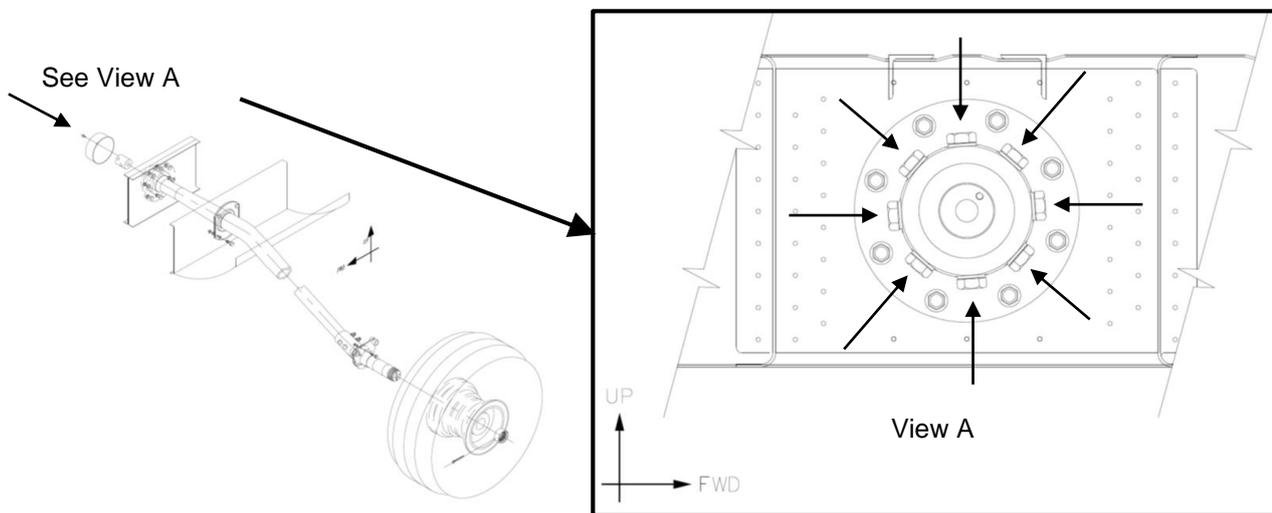

Figure 2 – Main Gear Leg Inboard Attachment Bolts
- ii. Remove the inspection panel and bolt retaining cap to gain access to the fasteners shown in Figure 2.
- iii. In accordance with Chapter 20 of the appropriate GA8 Airplane Service Manual, for each leg, torque the eight (8) 3/8" fasteners holding the inboard end of the main gear leg to the fitting.